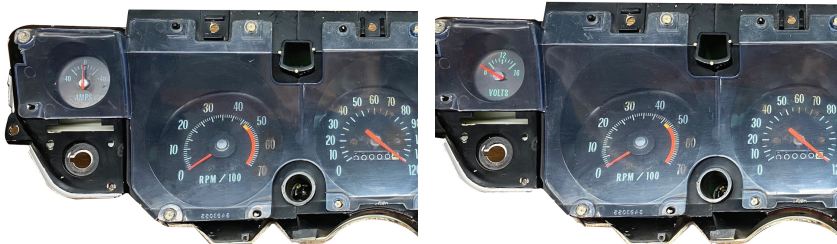

FIGURE 9
15. Figure 9 shows the old ammeter as it was installed, and the new voltmeter as it is now installed.
18. Route and attach the loose end of the black wire (D) with ring terminal to a good known chassis ground.
19. Route and attach the loose end of the pink 12v Ignition wire (C) to the fuse box area. If installing into: